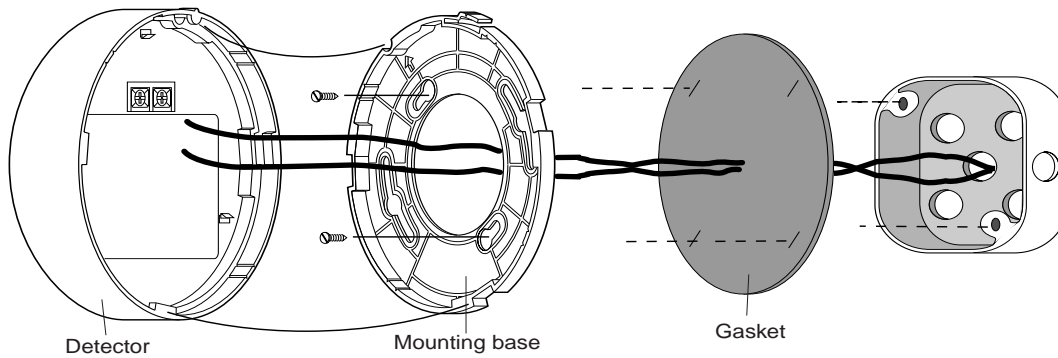

Figure 2 - Mounting the Detector
4. Line up and attach the gasket and mounting base to the electrical box, wall, or ceiling using the screws provided. Use the wall anchors if necessary. See Figure 2.